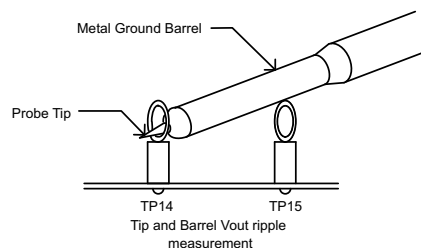

Figure 3. Output Ripple Measurement - Tip and Barrel Using TP14 and TP15
TPS40210EVM provides two test points for measuring the voltage generated by the module. This allows the user to measure the actual module output voltage without losses from output cables and connectors. All output voltage measurements should be made between TP14 and TP15. To use TP14 and TP15, connect a voltmeter positive terminal to TP14 and negative terminal to TP15. For output ripple measurements, TP14 and TP15 allow a user to limit the ground loop area by using the tip and barrel measurement technique shown in Figure 3. All output ripple measurements should be made using the tip and barrel measurement.
V_{IN} : The input voltage source (VIN) should be a 0-V to 15-V variable dc source capable of 8 A_{DC}. Connect VIN to J1 as shown in Figure 3.
Oscilloscope: A digital or analog oscilloscope can be used to measure the ripple voltage on V_{OUT}. The oscilloscope should be set for 1-MΩ impedance, 20-MHz bandwidth, ac coupling, 1-μs/division horizontal resolution, 10-mV/division vertical resolution for taking output ripple measurements. TP14 and TP15 can be used to measure the output ripple voltages by placing the oscilloscope probe tip through TP14 and holding the ground barrel to TP15 as shown in Figure 3. For a hands free approach, the loop in TP15 can be cut and opened to cradle the probe barrel. Using a leaded ground connection may induce additional noise due to the large ground loop area.
7. Place fan as shown in Figure 3 and turn on, making sure air is flowing across the EVM.
4. Connect oscilloscope probe to TP14 and TP15 as shown in Figure 3.